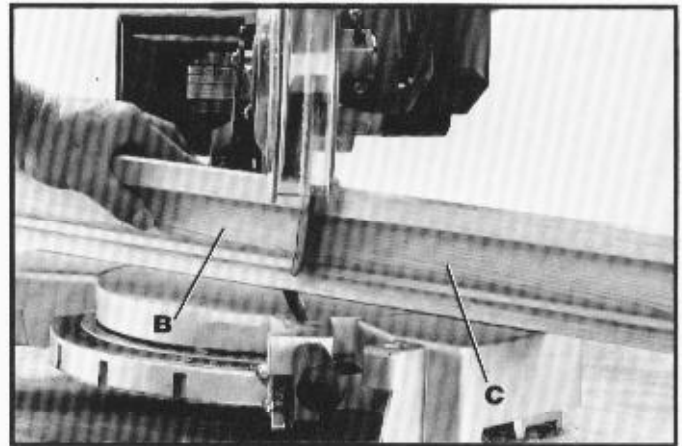
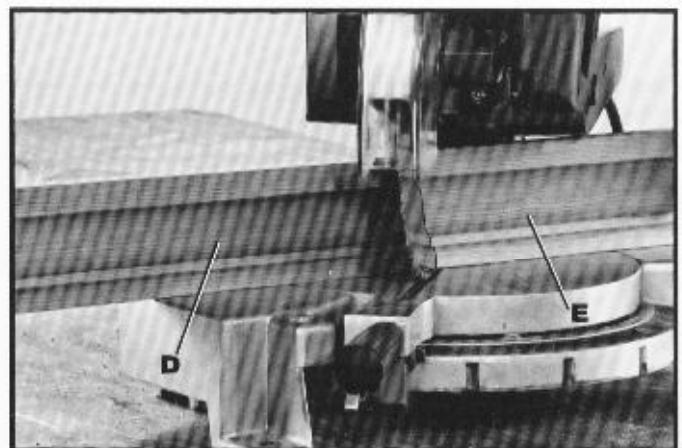

Fig. 55
Fig. 56
6. Fig. 55, illustrates the miter box arm in the 45 degree right miter position and the filler blocks fastened to the fence so that the moulding will be in the same position as it would be when nailed between the ceiling and wall. When making this cut the moulding (B) on the left of the saw blade will be for an outside corner and the moulding (C) on the right of the saw blade will be for an inside corner. To cut the mating pieces for mouldings (B) and (C) Fig. 55, simply rotate the miter box arm to the 45 degree left miter position and make the cut, as shown in Fig. 56. In this case the moulding (D) on the left of the saw blade will be for an inside corner and the moulding (E) on the right of the saw blade will be for an outside corner.